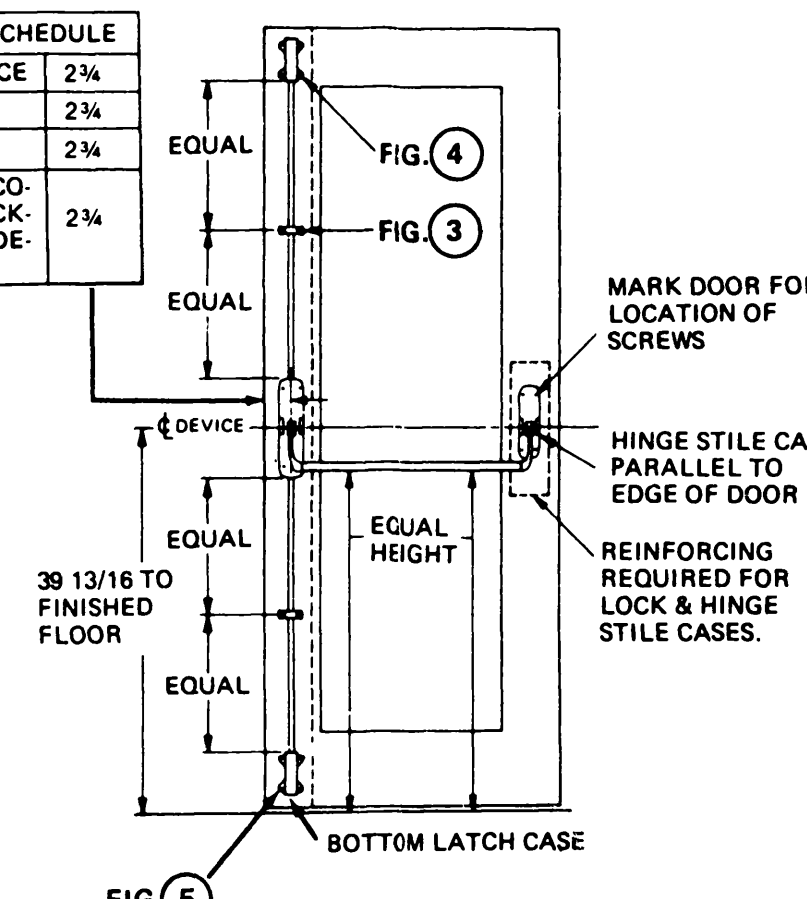

FIG. 7
**5. APPLY HINGE STILE CASE AND CROSSBAR TUBE (FIG. 7)**